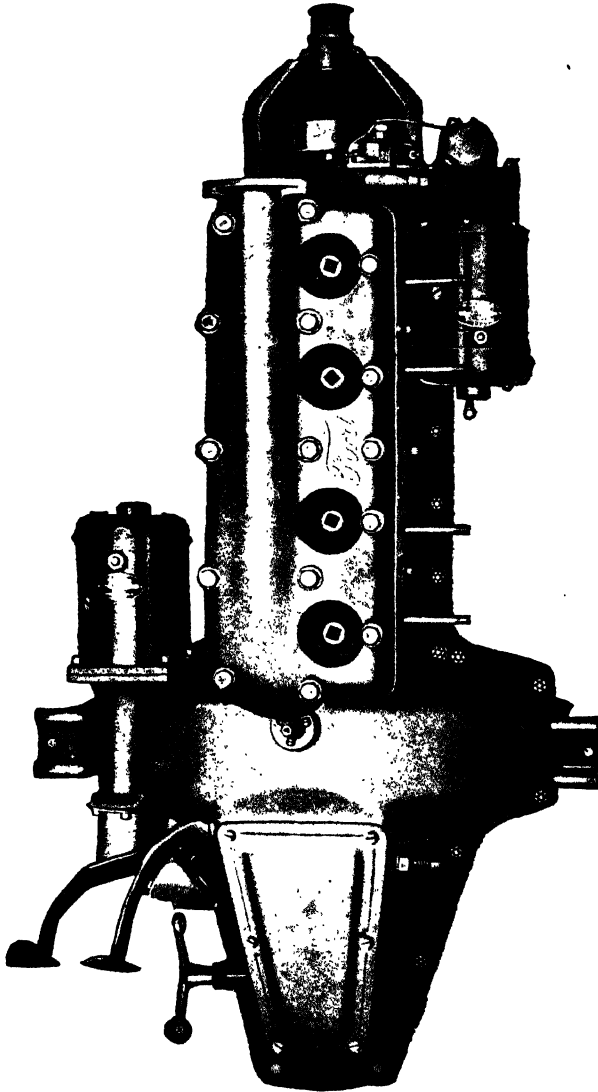
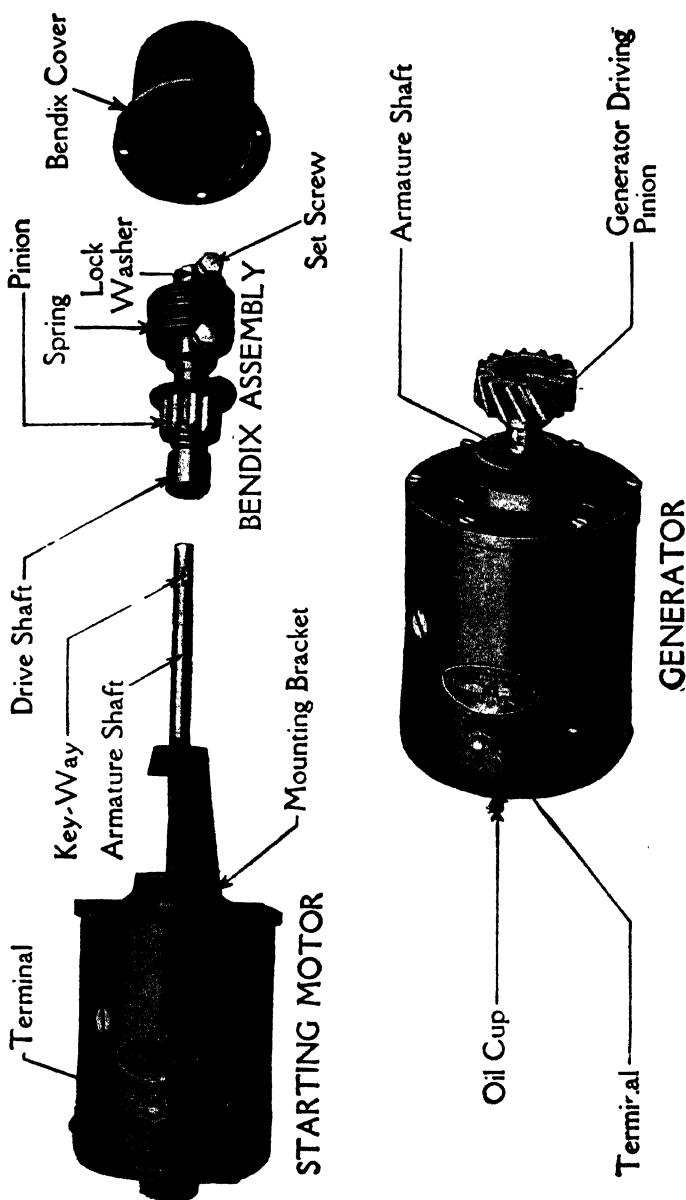

Fig. 367. Top View of Model T Motor, Showing Starter and Generator in Position
Fig. 368. Starter and Generator Units
**General Instructions.** On the latest model enclosed Ford cars such as the sedan and the coupé, an electric lighting and starting system is now being furnished as a regular part of the equipment. As will be noted by the illustration, Fig. 367, this has been designed especially for the Ford motor and is combined with it in a manner that makes it practically integral. The system is a standard two-unit six-volt single-wire type that is of conventional design throughout so that any repairman who is familiar with the other system previously described will at once recognize the layout of the Ford system and have no difficulty in handling it. The details of the generator and starting motor are shown in Fig. 368, while the complete wiring diagram is illustrated in Fig. 369. The battery is a 6-volt 13-plate Exide.
**Removal of Starting Motor.** It is necessary to remove the starting motor to replace the transmission bands. To do this, first remove the engine pan on the left side of the engine and then take out the four small screws holding the shaft cover to the transmission cover. Upon removing the cover and gasket, turn the Bendix driveshaft around so that the set screw on the end of the shaft is in the position shown in the illustration, Fig. 368. Immediately under the set screw is placed a washer of the locking type, having lips or extensions oppositely placed on its circumference. One of these is turned against the collar and the other is turned up against the side of the screw head. Bend back the lip which has been forced against the screw and remove the set screw. A new lock washer of this type must be used when replacing the starting motor.